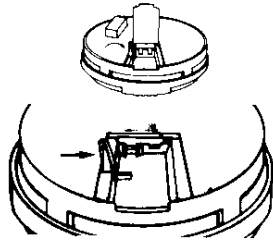

Fig. 3
7. When installing the battery, press the battery reminder finger down into the battery compartment and install the battery (see Figure 3).